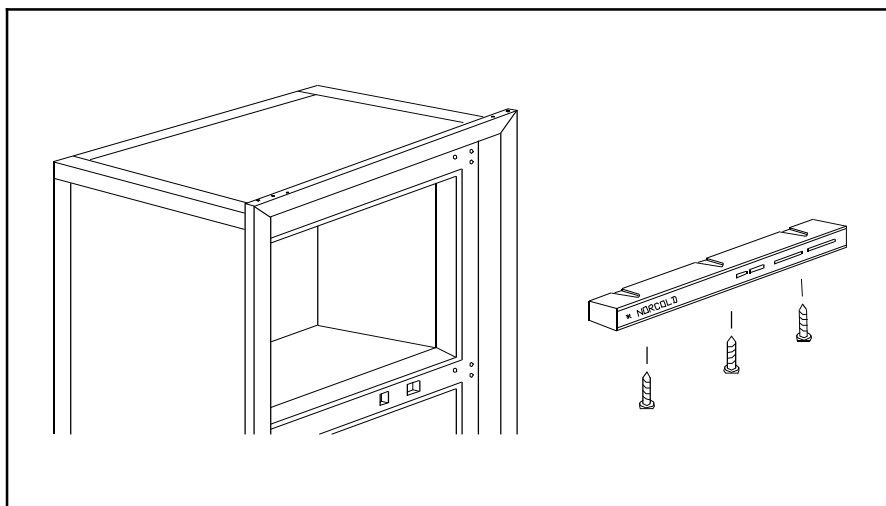

Figure 11.28 Eyebrow Removal
15. If 10 Volts DC is present in the preceding step, continue by removing the Eyebrow assembly from the refrigerator by removing the 3 screws as shown in Figure 11.28.